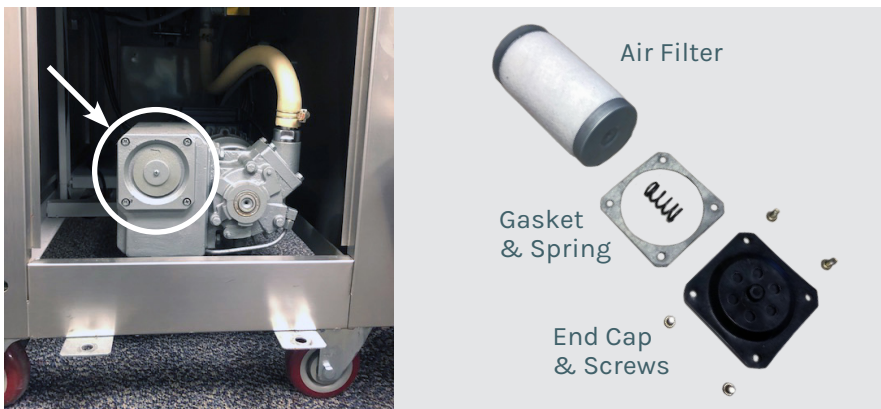

Figure 1 - Air Filter Housing and parts
1. Remove back cover from machine and locate the air filter housing on the pump (see "Figure 1" below)